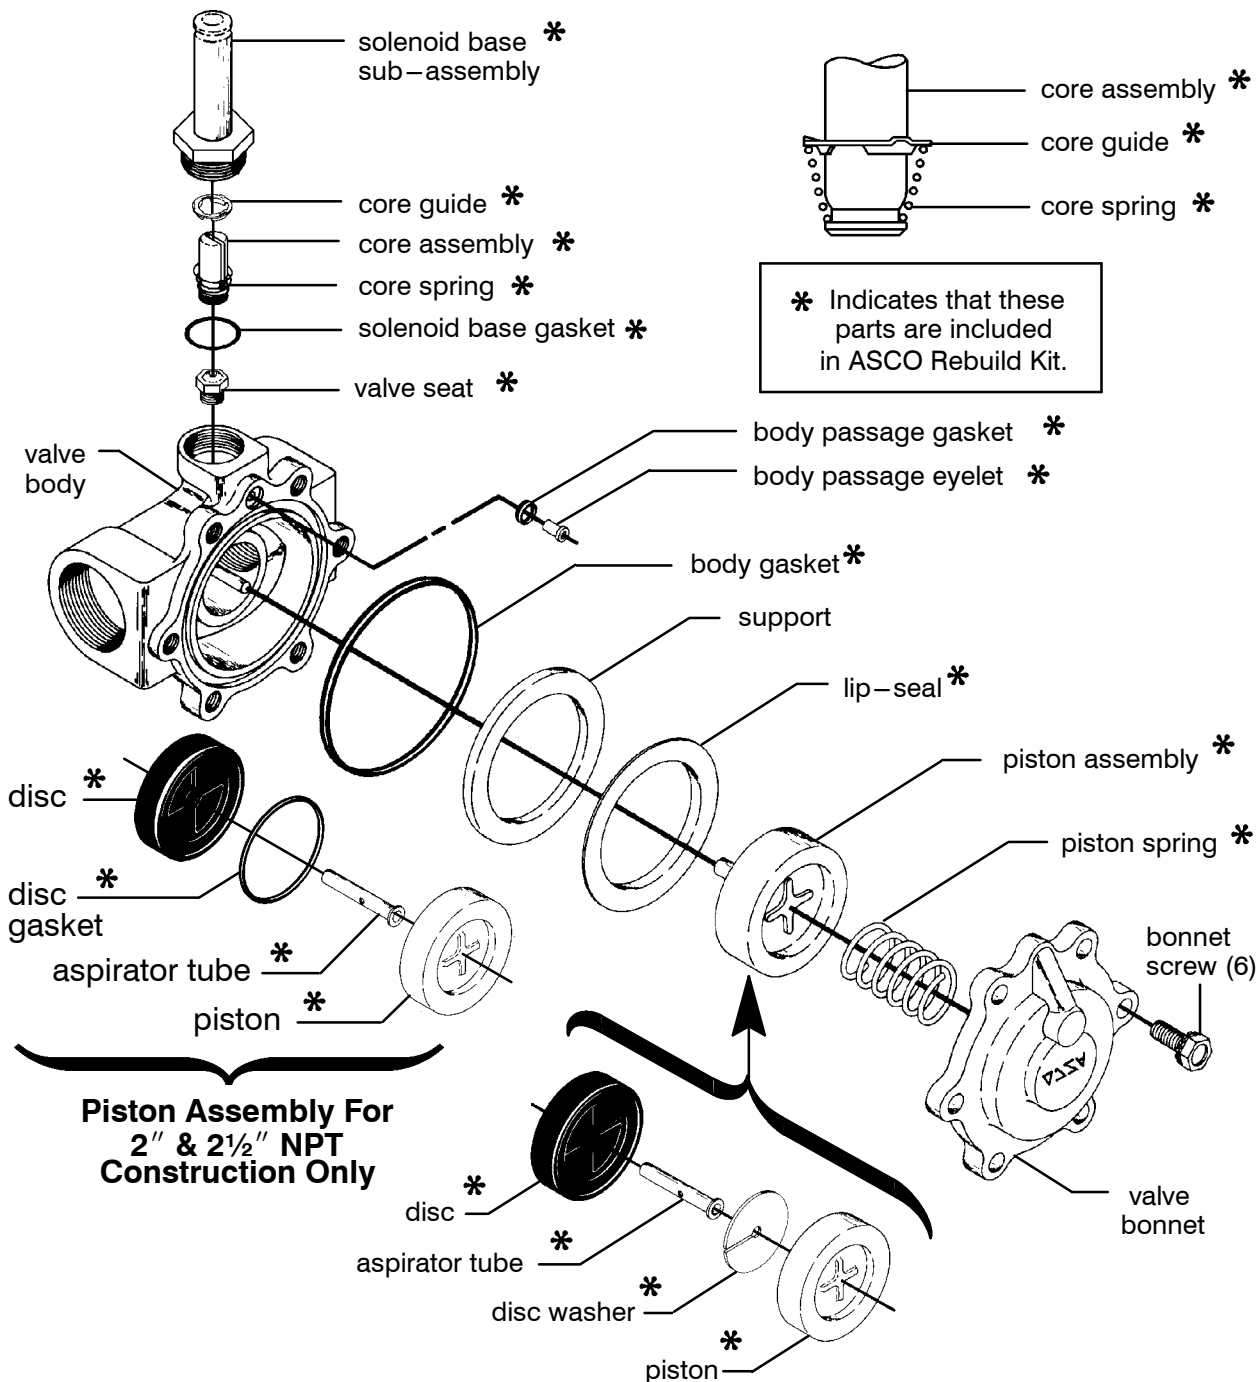
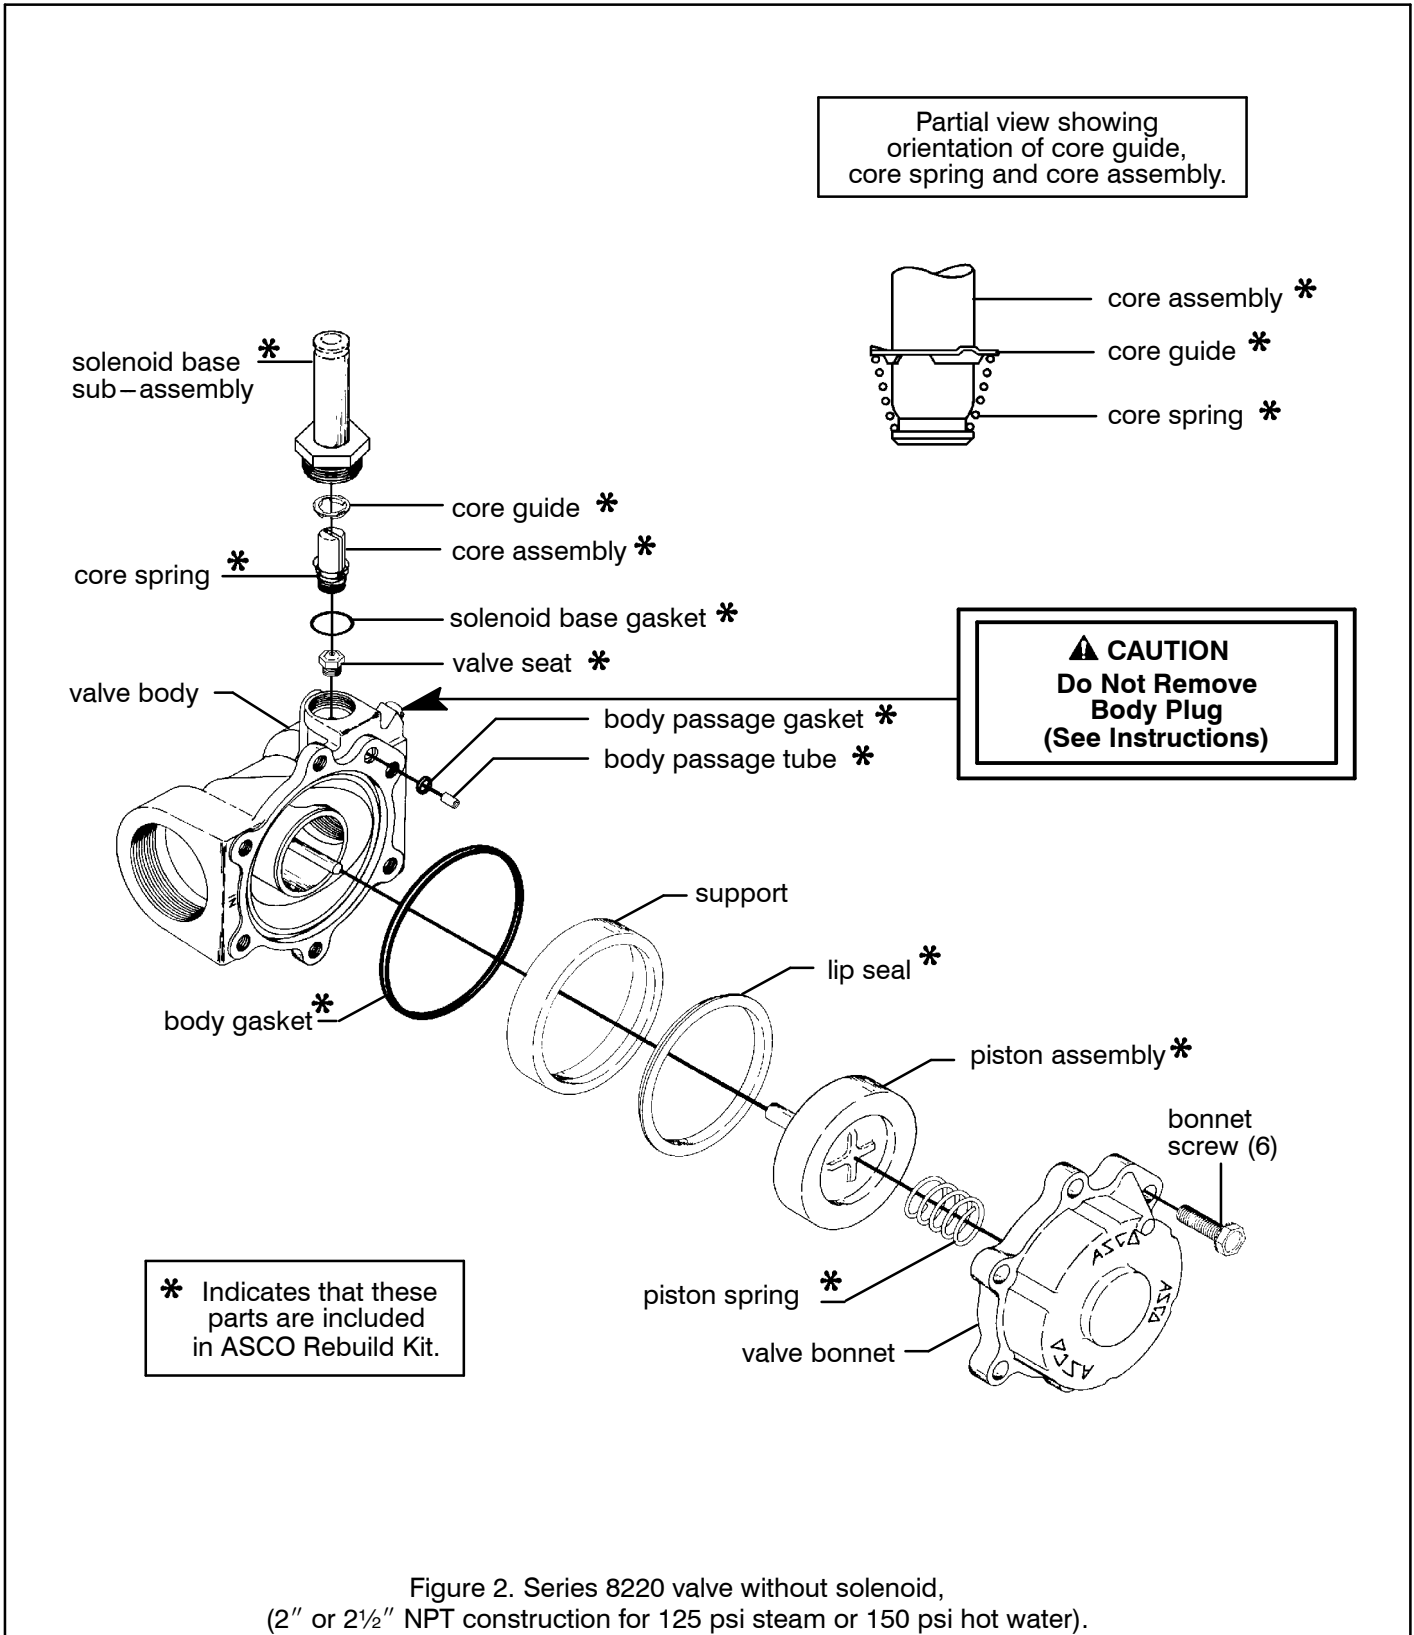

Figure 1. Series 8220 valve without solenoid.
Figure 2. Series 8220 valve without solenoid,
Note: Check pressure rating on nameplate to determine valve construction. Refer to Figure 1 on page 3 for valves with a pressure rating of 50 psi steam or 150 psi hot water. Refer to Figure 2 on page 4 for valves with a pressure rating of 125 psi steam or 150 psi hot water.
5. On valves rated for 50 psi steam or 150 hot water reassemble piston assembly following views provided in Figure 1 on page 3.